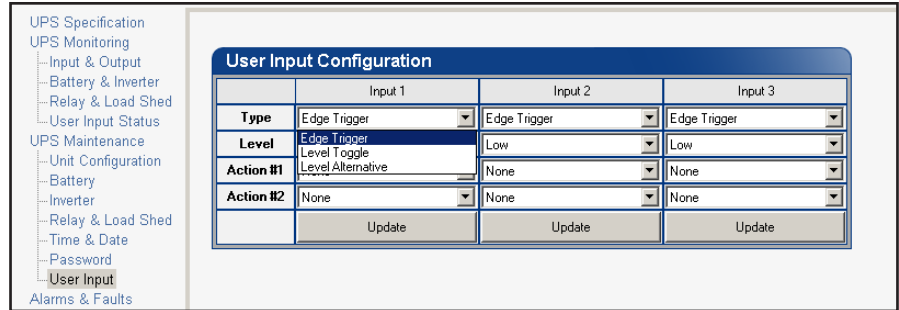

Figure 7.38 – User Input Configuration: Setting the Trigger Type
1. Click on **UPS Maintenance > User Input** to display the **User Input Configuration** window. (Figure 7.38)